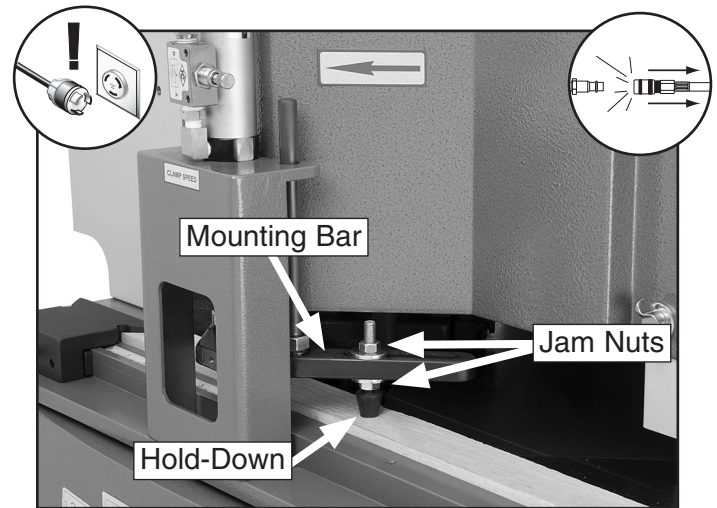

Figure 16. Workpiece hold-down.
4. Position your workpiece under the hold-downs, then lower the hold-downs by hand until they touch the workpiece (see **Figure 16**).